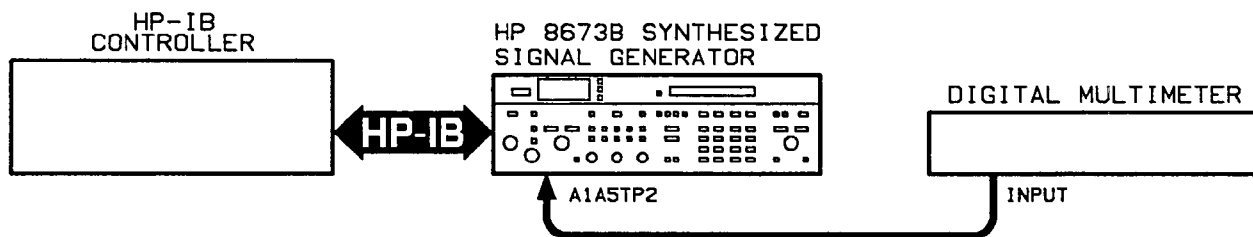

Figure 5-33. PAC DAC Adjustment Test Setup
Procedure 1. Connect the equipment as shown in figure 5-33.
2. Connect the equipment as shown in figure 5-33.